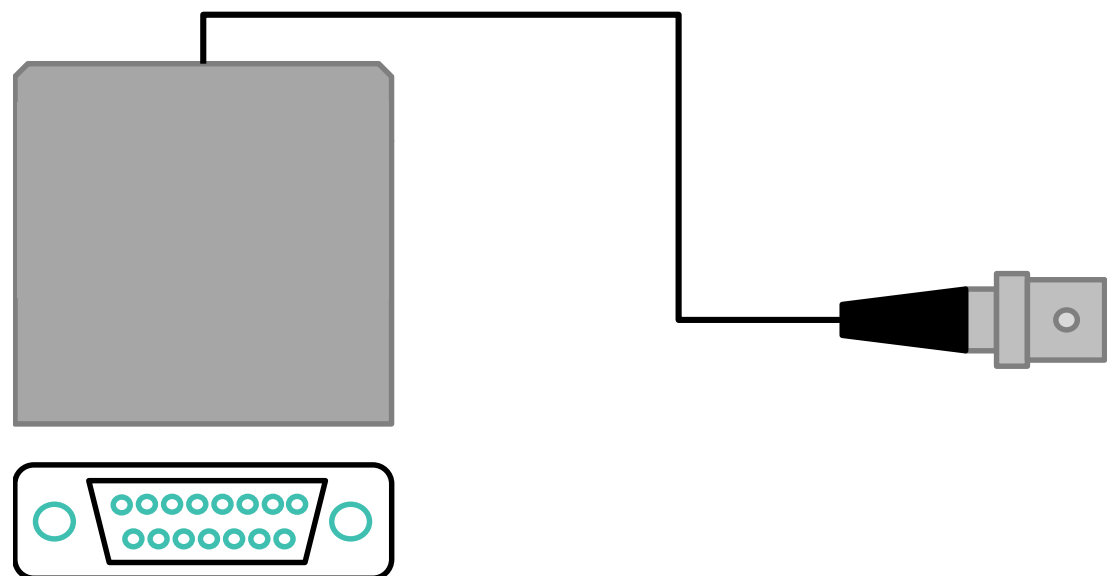

Figure 20 - DIO cable for the Autolab PGSTAT204 and M204
- For the PGSTAT204 and M204, a male DIN15 to female BNC cable is available (see Figure 20). This cable can be connected to the DIO port of the instrument.